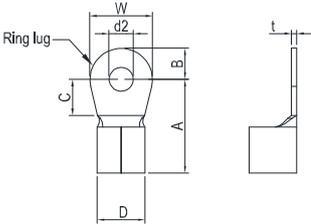

Figure 1
- ☞ The following additional terminals are required when wiring. The additional terminal dimension should comply with Figure 1 below.
- ☞ The following additional terminals are needed when wiring. The additional terminal dimension should comply with Figure 1 below.
- Ⓜ The following additional terminals are needed when wiring. The additional terminal dimension should comply with Figure 1 below.